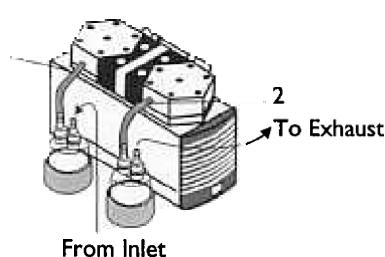

Figure 7:Tubing Connection SR
- d. Tubing of twin head pumps: see figure 7. When connecting single head pumps, study the information sheet that accompanies the accessories. Choose tube material which is resistant to the media being used.